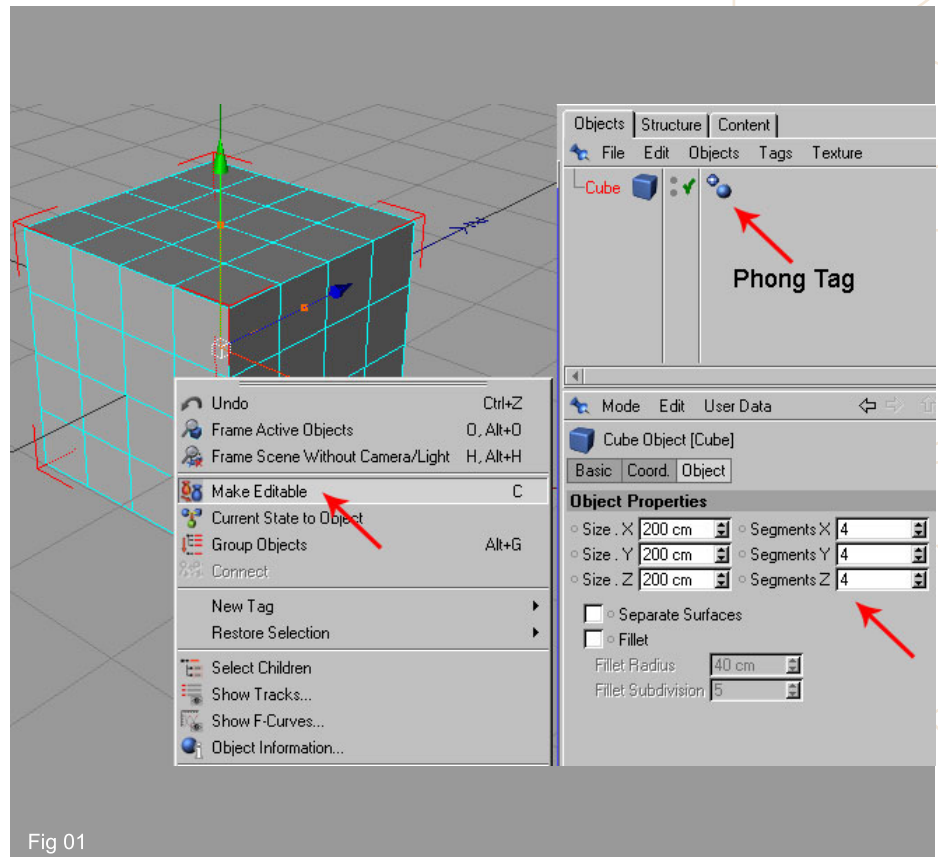

Fig 01
1. The first step is to create a cube with 4 length, width and height segments as shown on the right in Fig 01. Make it Editable, so right click on the cube and select "Make Editable". You will notice that the UVW Tag will appear nearby to Phong Tag in the Object Browser, these are default co-ordinates that cinema assigns to the object. We will assign our coordinates to the object later, so you may delete the tag.